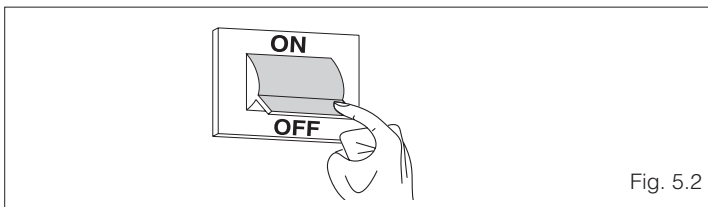

Fig. 5.2
- Turn the mains power switch OFF (fig. 5.2).